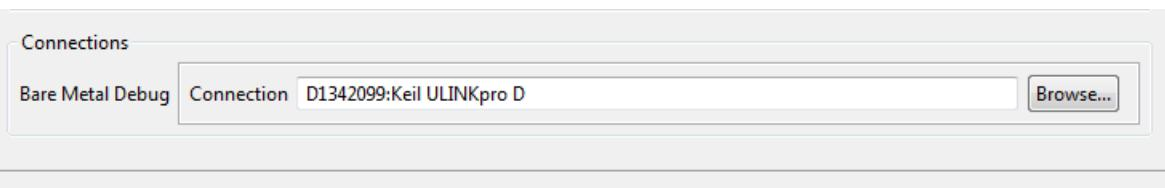

Figure 10: Debug Configurations Window: Browse Option to Select Probe
6. You must still select the target probe. Click **Browse** in the Connections section of the Debug Configuration tab (shown in Figure 10, below) and select the probe that you have attached to the host PC.